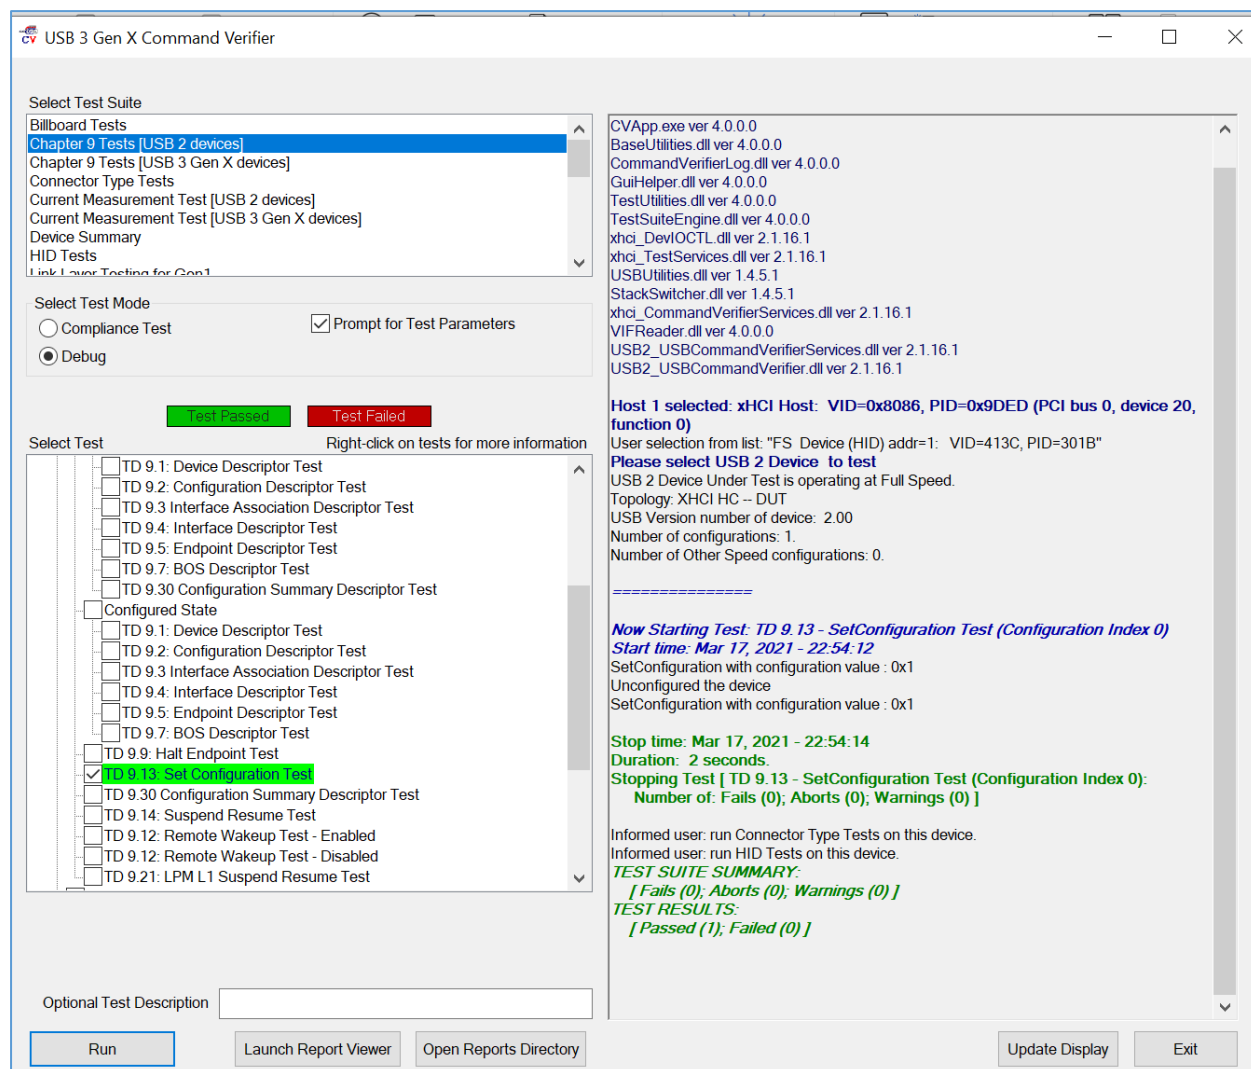

FIGURE 7.18: TEST RESULTS GENERATION IN CV TOOL FOR TD 9.13 SET CONFIGURATION TEST
10. The test results will be updated in the CV tool once the test execution is completed (Figure 7.18 below).